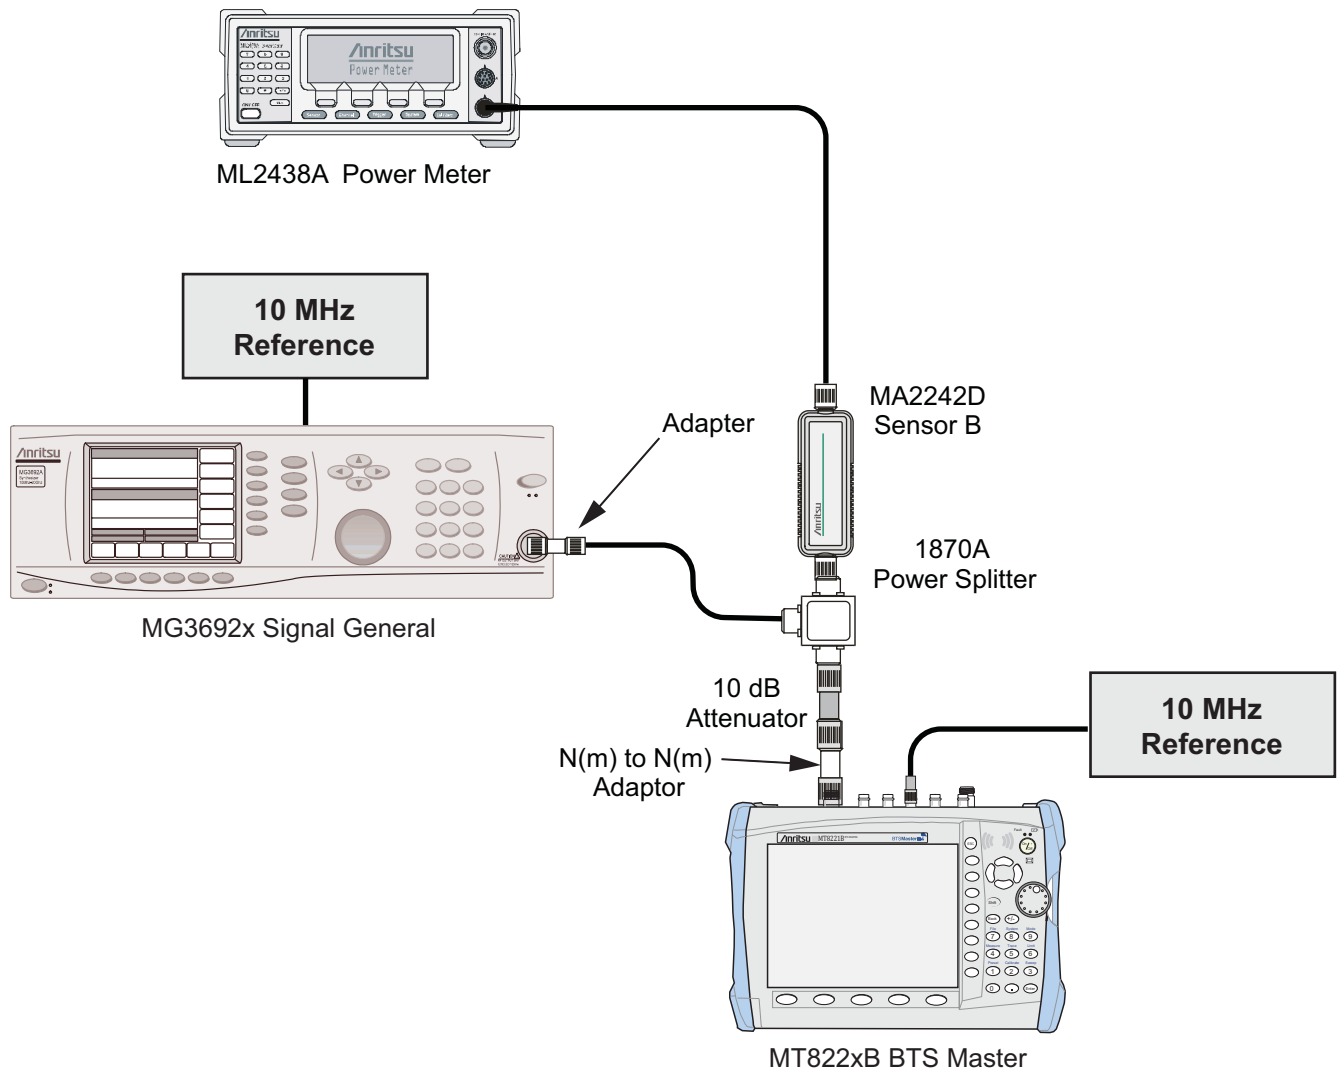

Figure 2-2. Absolute Amplitude Accuracy Verification Test Setup
1. Remove Sensor A, add the adapter and connect it to the Spectrum Analyzer RF In connector of the MT822xB BTS Master as shown in Figure 2-2.